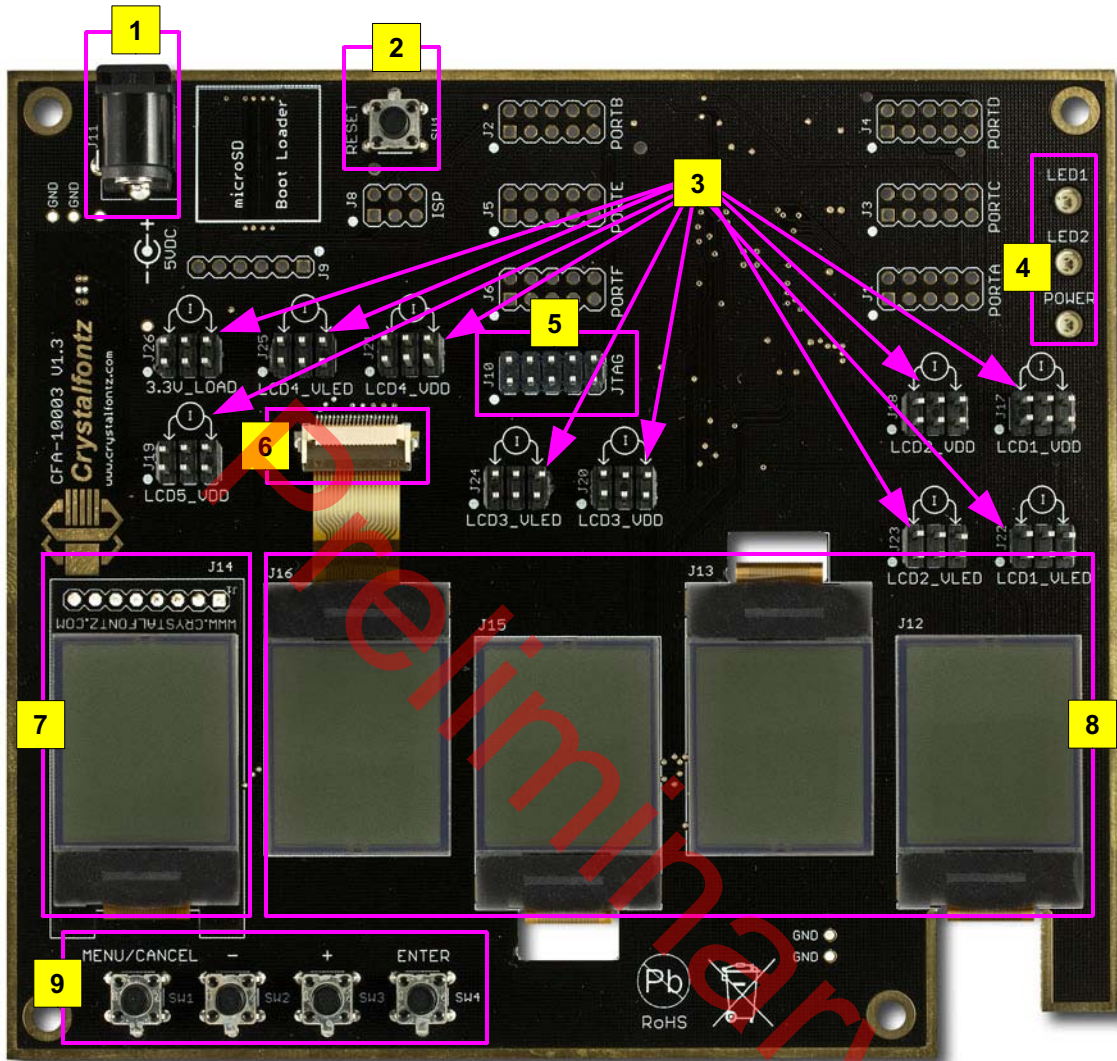

Figure 1. Front View of the CFA-10003 Demonstration Board with Five CFAO4265A Modules
- CFA-10003 Demonstration Board (PCB) with an Atmel ATmega2561 microcontroller. See Pg. 4, Figure 1. Front View of the CFA-10003 Demonstration Board with Five CFAO4265A Modules.